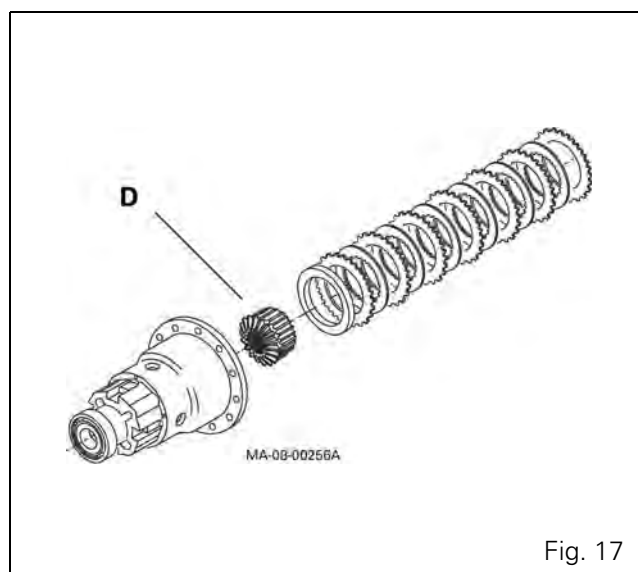

Fig. 17
22. Remove the plates, drive discs and sun gear D from the differential unit (Fig. 17).